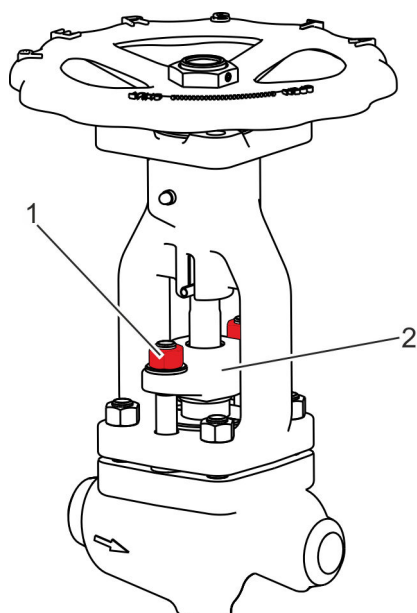

Fig. 49: Unscrewing the threaded connections on the gland follower flange
44. Loosen and remove the nuts including washers (Fig. 49/1) on the gland follower flange (Fig. 49/2).